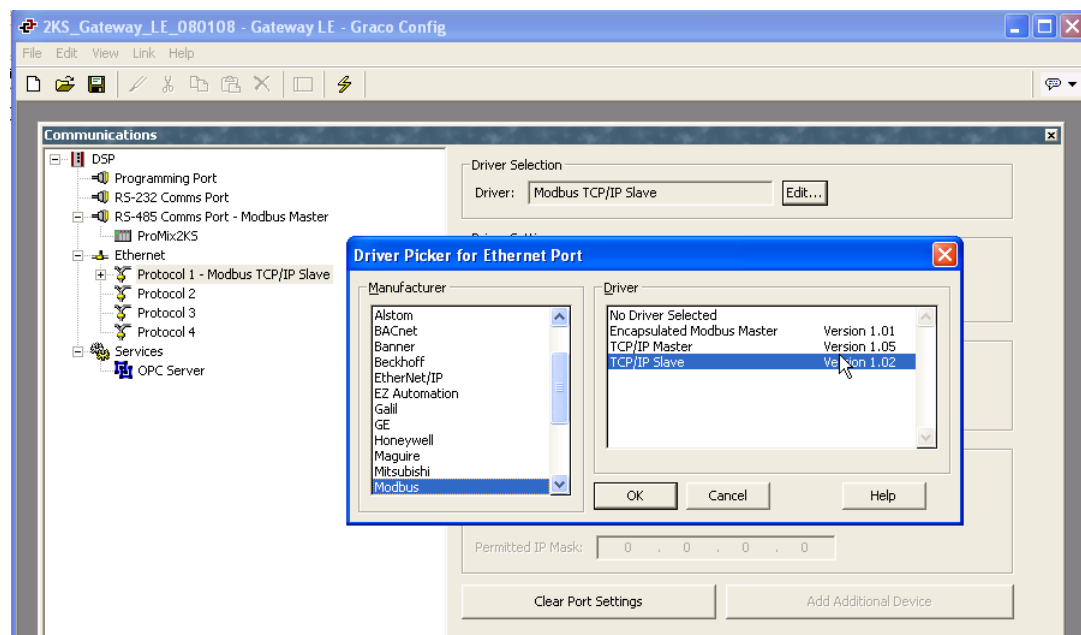

FIG. 20: Select Protocol
2. See FIG. 20. Highlight Protocol 1. Click the Edit button on the right side of the window to open the Driver Picker window. Choose a protocol from the